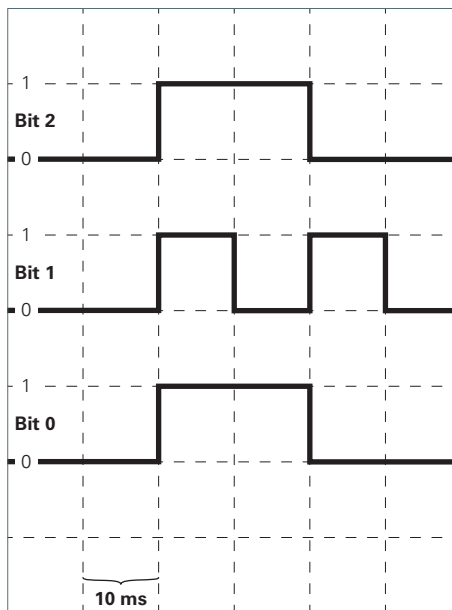

Fig. 7: Bit sequence for deactivating the operating mode "Combined operation WHITE+RGB"
- Send the bit sequence for deactivating to the connection cable with the white luminaires and the RGB luminaire, see Fig. 7.